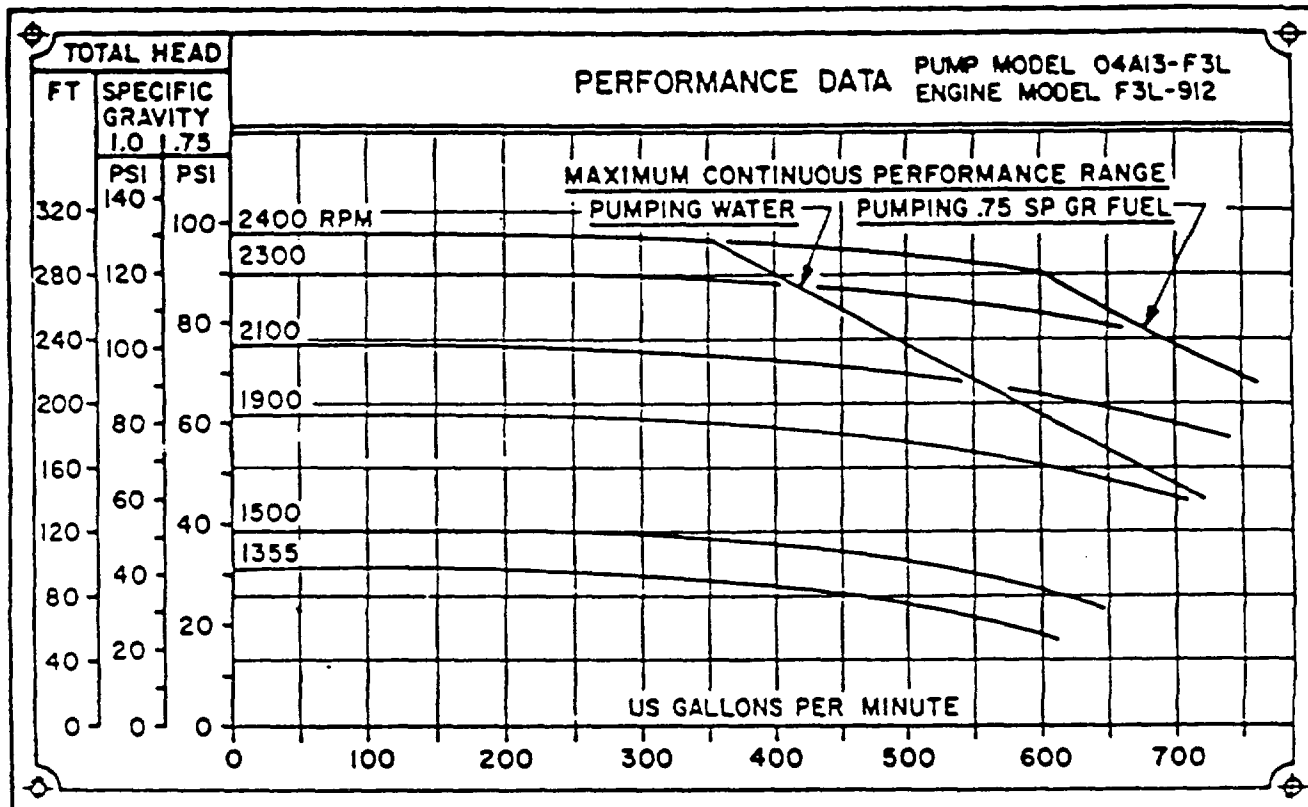

Figure 2-6. Performance Chart.
- p. Adjust pump speed to meet mission requirements. Refer to Figure 2-6.